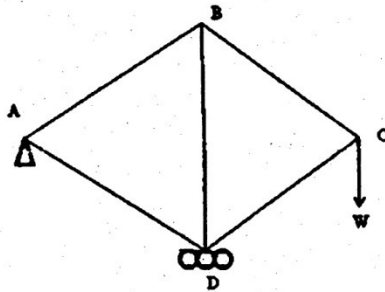

Figure 1
11. Determine the vertical deflection at C and horizontal deflection at D due to a load W applied vertically at C of the truss shown in figure 1. The truss ABCD is made up of two equilateral triangles and is hinged at A and roller support at D. All the members are of same length 1 and all tension members are of area 'a' and all compression members are of area '2a'.